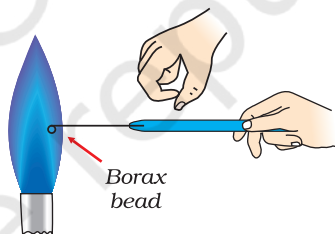

Fig. 7.5 : Removing borax bead
- To remove the bead from the platinum wire, heat it to redness and tap the platinum wire with your finger. (Fig. 7.5).